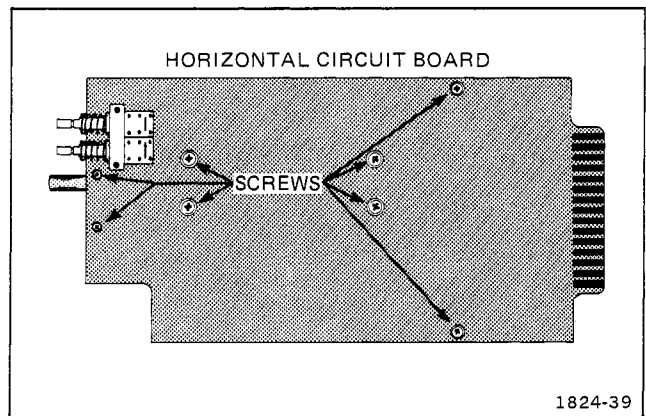

Fig. 4-11. Location of screws holding Horizontal circuit board to module assembly.
- k. Remove 8 screws (see Fig. 4-11) that hold the Horizontal circuit board to the module assembly.